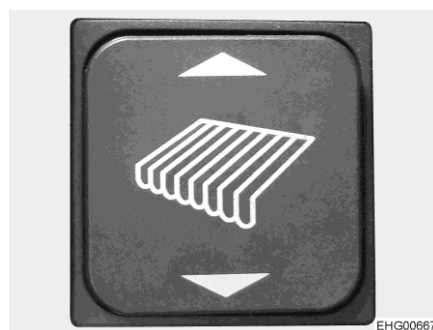

Fig. 48 Awning rocker switch (entrance area)
- Press the lower triangle on the rocker switch (Fig. 48) until the awning has reached the desired position.
- Retract the awning to approx. 1 m. In order to do this, press the upper triangle on the rocker switch (Fig. 48).